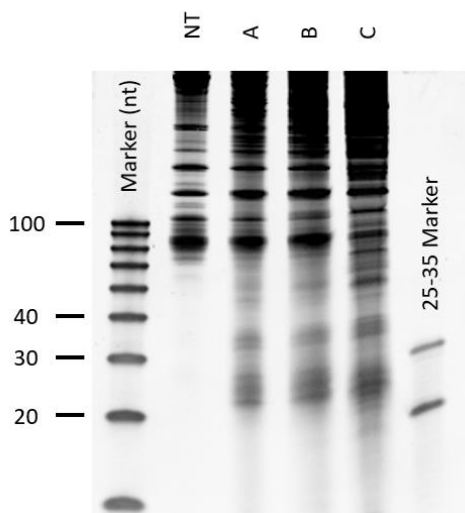

Fig.1 Example of RNA extracted after nuclease titration run on 15% TBE-Urea gel.
As depicted in the figure 1 above, not digested sample do not present the typical enrichment of fragments at 25-35 nt. Under-digested sample (A) do not display a high enrichment of RPFs, while over-digested sample (C) shows a smear of signal on the gel. In this example, quantity of Nux used in sample B (AU x 5) need to be utilized for all the reactions.